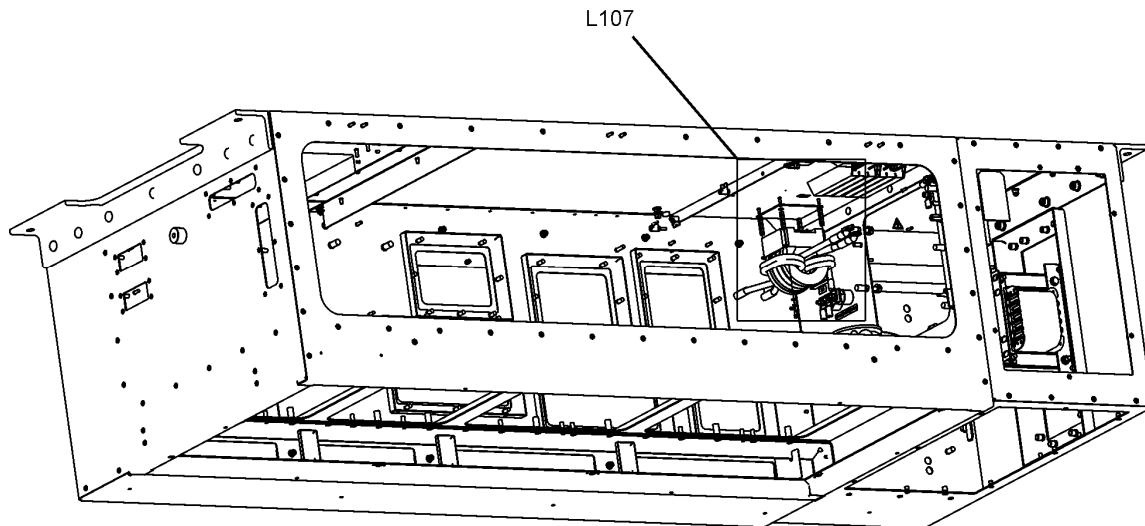

Figure 5-13: Location of L107
3. Locate L107. See Figure 5-13 for the location of the L107. L107 is mounted on the ceiling, behind the C101 Capacitor.